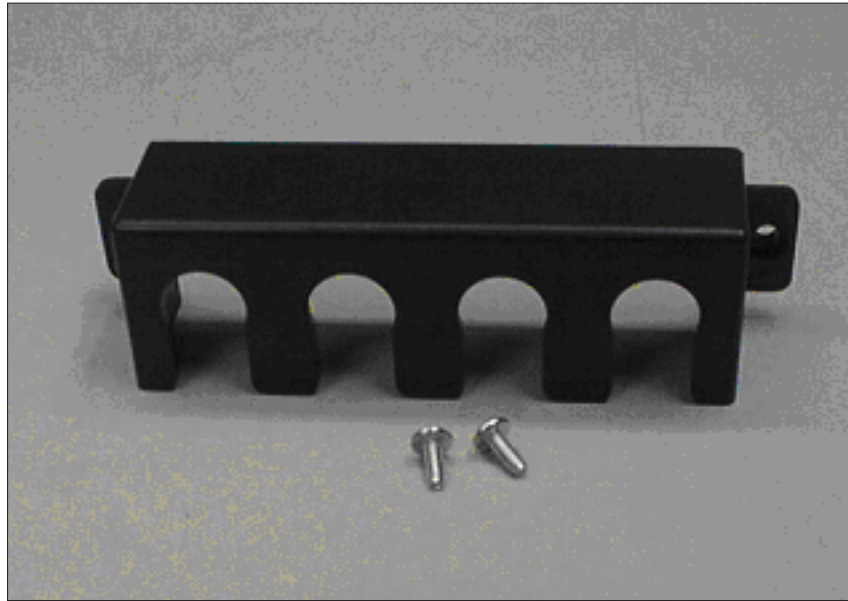

Figure 36. 2145 UPS-1U power cable-retention bracket hardware
2. Remove the bracket and the two screws (shown in Figure 36 on page 43) from the packaging.